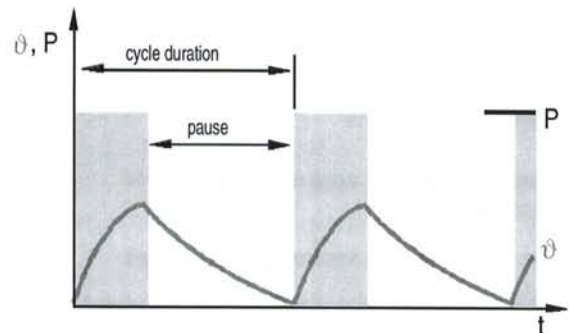

Fig. 1.8.2 Temporary mode S2
- In **temporary mode S2** (see Fig. 1.8.2) the operating duration in comparison with the following pause is so short that the steady state temperature is not reached. The motor cools down to the output temperature in the subsequent longer pause.